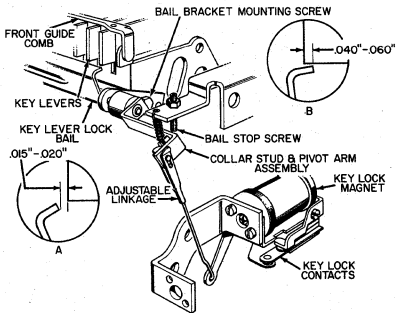

Figure 17-1
1. With the key lock magnet de-energized, the key lock bail, under spring tension against the bail stop screw, is to project $.040''$ to $.060''$ under the ends of the key levers (Figure 17-1 Inset B).
3. With the adjustable linkage connected and the key lock magnet energized, the clearance between the locking bail and the ends of the longest key levers is to be .015" to .020" (Figure 17-1 Inset A).